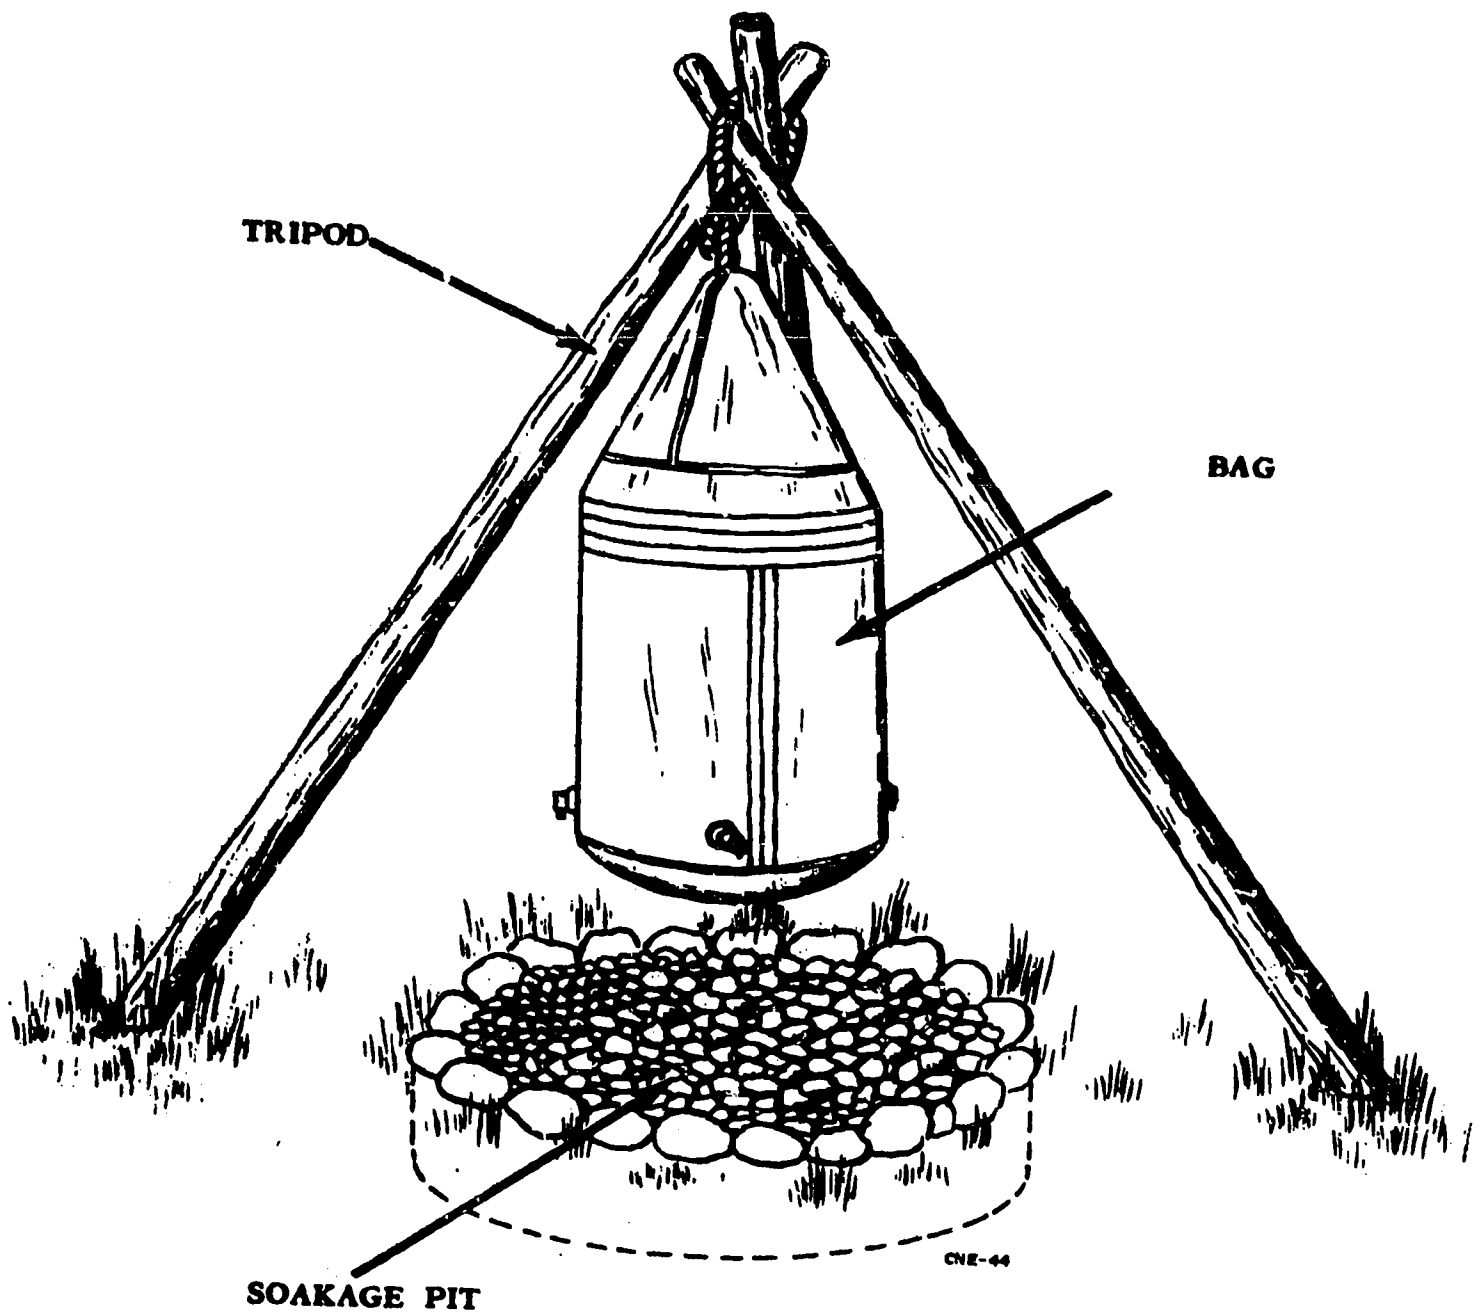

Figure 5-1. Water purification bag setup.
Water purification bags (Lyster bags, 36-gallon canvas containers) are ordinarily issued to units on the basis of one bag per 100 people. These bags permit seepage of water, and provide cooling by evaporation. They are set up before they are filled with water (fig. 5-1). The weight of the water may cause the supporting ropes to stretch, creating a gap between the cover and the bag. Should this occur, the ropes should be adjusted so that the cover again fits snugly around the upper part of the bag and, thus, prevents contamination of the water by dust and insects. Inspect Lyster bags frequently for cleanliness. If you find them dirty, scrub them, treat them with a strong solution of chlorine (1 ampule of calcium hypochlorite to 1 gallon water), and rinse them several times with potable water. A soakage pit must be provided under each Lyster bag to prevent water from collecting.
Disinfection Procedures. Water is disinfected at the unit level by using the Lyster bag (fig. 5-1) or other suitable containers.
a. Clean the Lyster bag and hang it by the supporting ropes as illustrated in figure 5-1. The supports must be sturdy, as the bag filled with water weighs approximately 300 pounds.